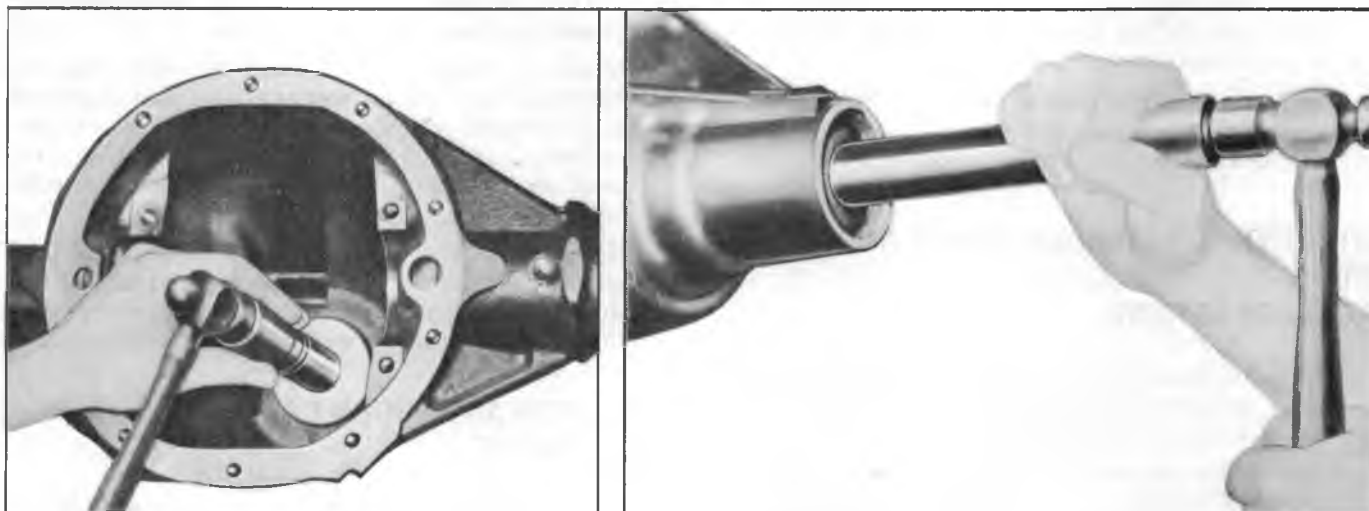

Fig. 15A-Drive Pinion Front and Rear Bearing Cup Installation
1. If rear pinion bearing is to be replaced, install new outer race using Driver Handle J-8092 and Installer J-9745 on P-Type and J-8608 on all other axles. See Figure 15A.
2. If front pinion bearing is to be replaced, install new outer race using Installer J-7137 with Driver Handle J-8092. See Figure 15A.